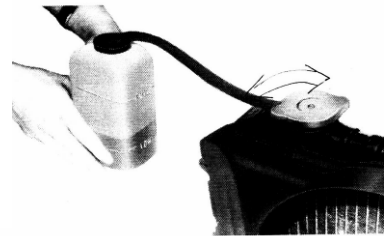

Fig. 26 Radiator cover and coolant tank
(1) Unscrew the radiator cover and fill up the radiator with coolant (Fig.26), and the coolant tank shall be filled up to "FULL" mark (Fig.27). Caution shall be exercised so as not to surpass the "FULL" mark.